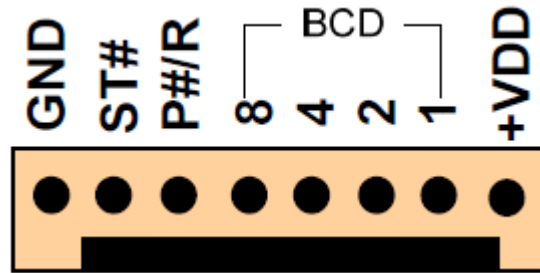

Fig. 2: BCD Header pin-out
6. **BCD Header:** It is 8-PIN 0.1” male connector use for power and sends out keypress data in Binary BCD8421 format. See figure 2 for the pin-out.